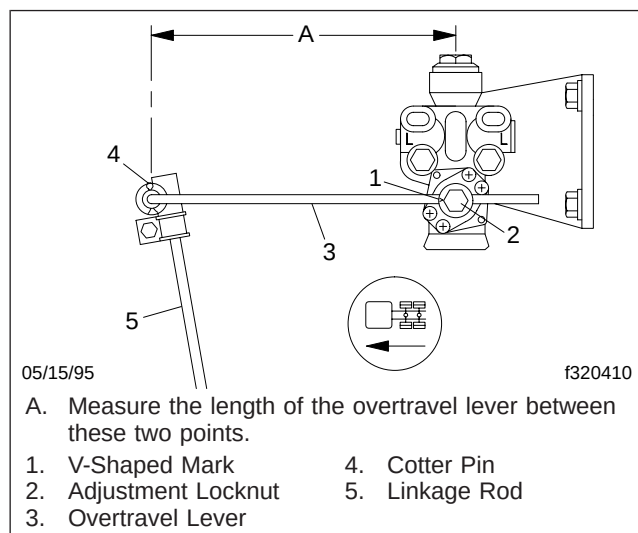

Fig. 5, AirLiner Overtravel Lever and Linkage Rod Measurement
3. Check the length of the overtravel lever between its pivot points. See **Fig. 5**, Ref. A.